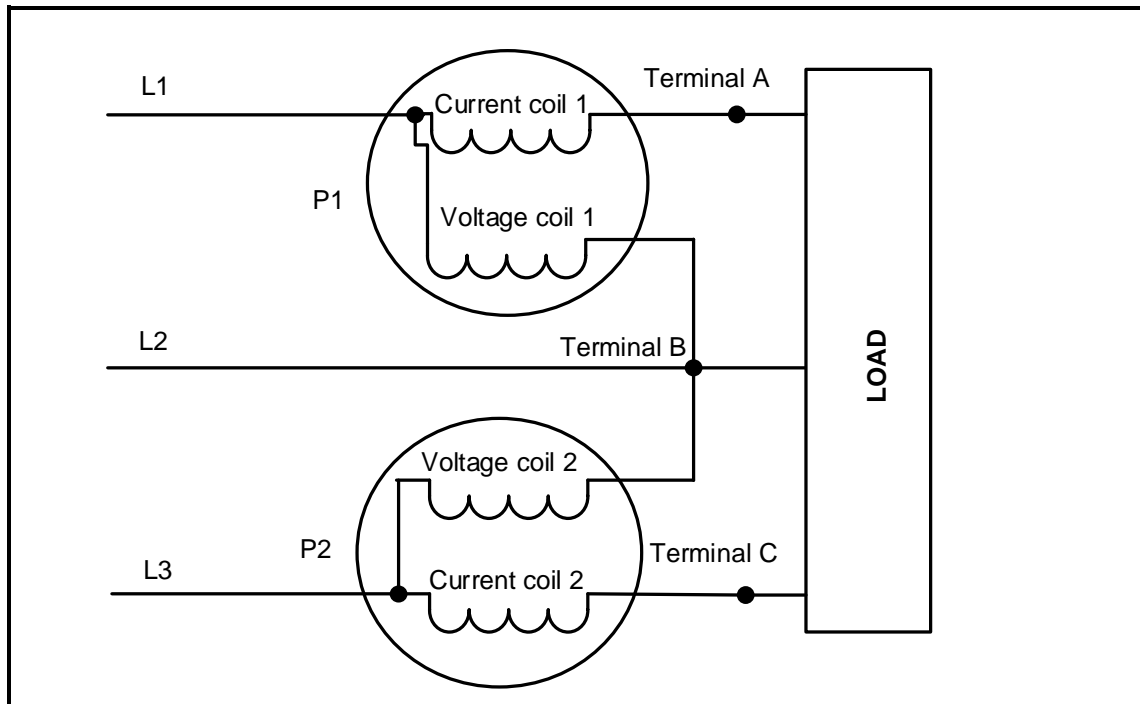

FIGURE 3.7
3.7 Refer to FIGURE 3.7 below and answer the questions that follow.
- 3.7.1 Identify the method used in FIGURE 3.7 to measure the power to the load. (1)